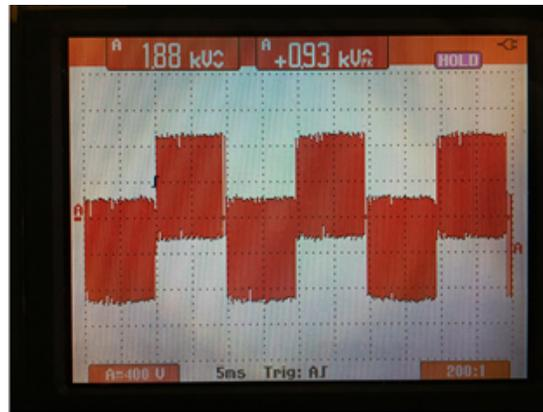

Figure 2 - PWM waveform taken at a motor with dV/dT filter
- Figure 2 is of a PWM waveform taken at a motor. System has a dV/dt filter.